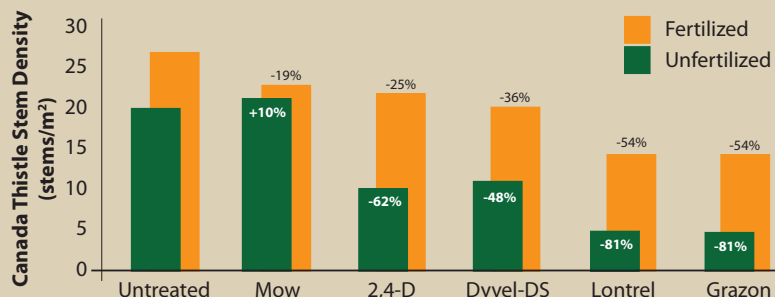

Figure 2: Comparison of CT stem densities 2 years after a single treatment.
1. While all herbicides (Dyvel DS, Lontrel, Grazon P+D, and 2,4-D) reduced CT the year of application, the greatest long-term reductions (up to the third year) occurred with systemic herbicides containing picloram (Grazon) and clopyralid (Lontrel) (See Fig. 2).
2. The inclusion of annual pasture fertilization with herbicides greatly enhanced CT control in the second and third years (See Fig. 2).
4. In the absence of weed control, fertilization increased CT biomass and stem density (See Fig. 2).